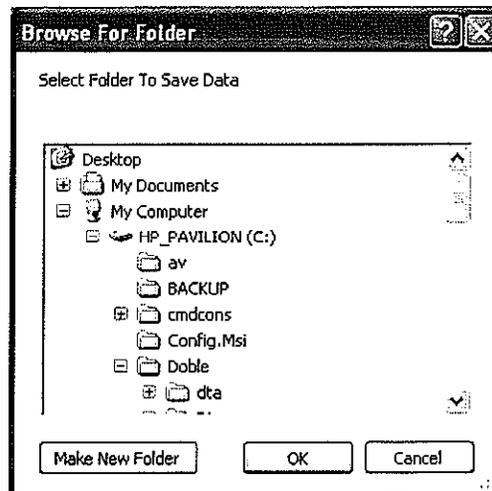

Figure 2.36 Browse for Folder Dialog Box
- For Data Path or Editors List Path, the Browse For Folder dialog box appears (Figure 2.36).
The Browse For Folder dialog box appears (Figure 2.36).